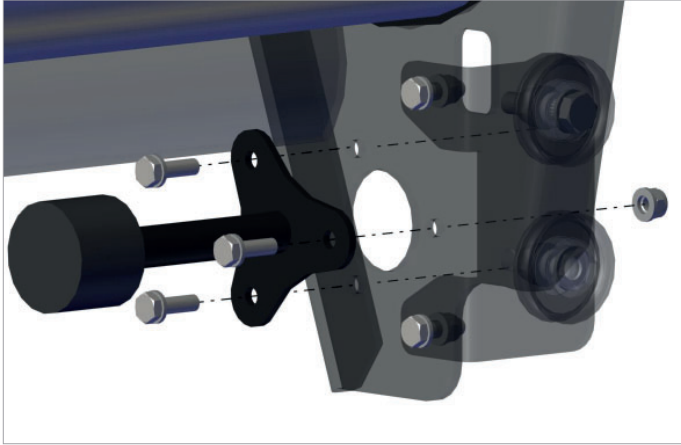

Fig. 6.3.6 Mounting the shock on the cover plate
- Mount the shock (or hydraulic shock absorber) on the coverplate with the provided fastening materials. Refer to fig. 6.3.6